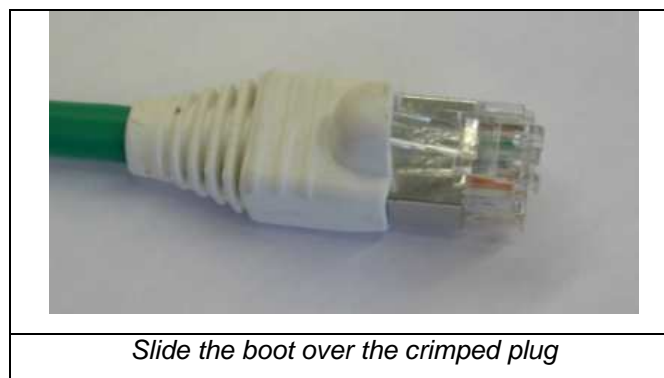

Figure 15
5. Slide the boot over the crimped plug and shield. See Figure 15.